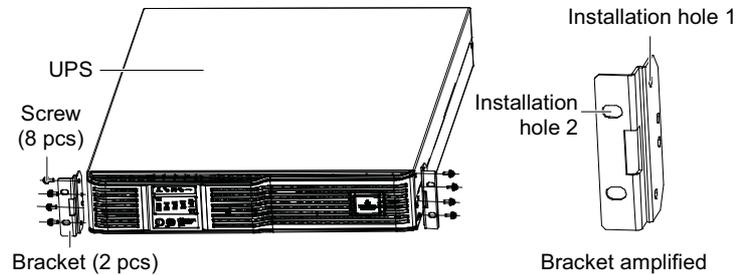

Figure 2-6 Installing brackets
2. Take out the brackets and eight M4 × 10 screws from the accessories. Through the installation hole 1, use M4 × 10 screws to fix the two brackets respectively on both sides of the UPS front panel, as shown in Figure 2-6.